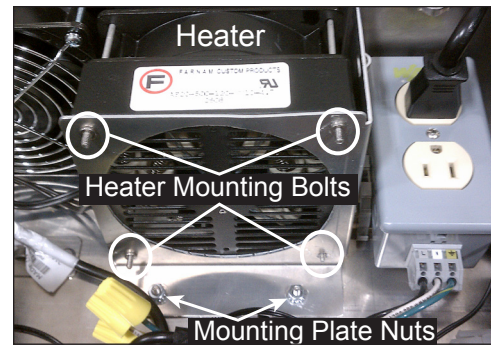

Figure 38: ISP Enclosure Heater Assembly
2. Using the nut driver, loosen and remove the mounting plate nuts. Refer to **Figure 38**.